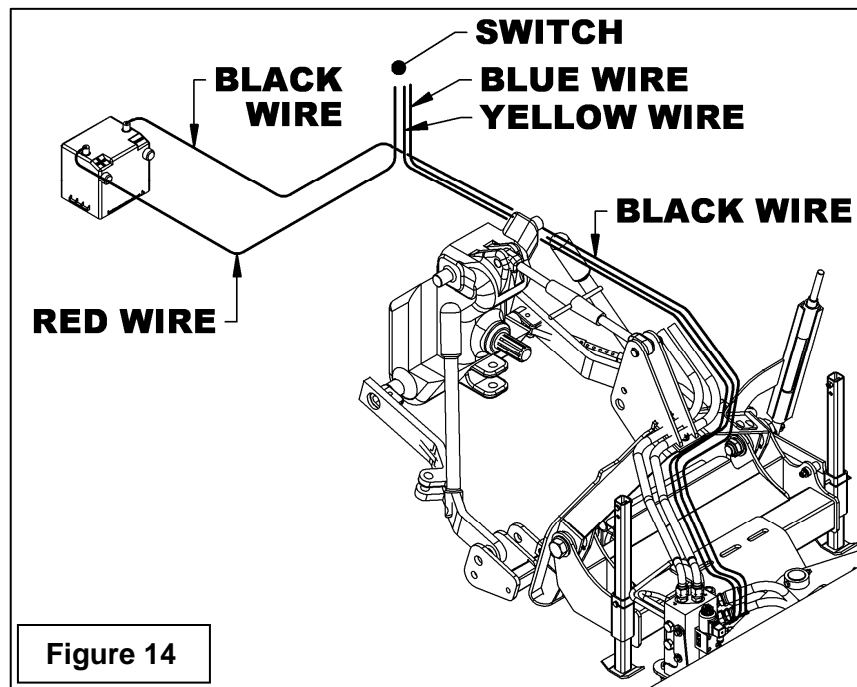

Figure 14
3. Attach the 3-cavity female connector (360" wire) (item 4) close to the vehicle's quick couplers with a nylon tie wrap Run the wires alongside the hydraulic hoses and the tractor frame before bringing them into the cab avoiding any areas liable to pinch the wires (see figure 14).
6. Connect all the wires (item 4 et 5) on the same side of the switch (item 8).
7. Connect the red battery wire (192" wire) (item 5) in the middle of the switch (item 8) on the same side as the blue and yellow wire. Run the wire through the vehicle all the way to the battery. Strip 3/8" from the wire end (item B), crimp a round terminal (item 7) then heat with a hot air gun to shrink the sheath on the wire.
8. Strip 3/8" from the end of the wire assembly's (item 4) black wire (item C), crimp a round terminal (item 12) then heat with a hot air gun to shrink the sheath on the wire. Install the round terminal (item 12) to make the ground.
9. Connect the round terminal (item 7) to the battery.
10. Insert the fuse (item 6) in the fuse holder of the battery wire (item 5).
11. Connect the 3-cavity male connector (item 2) to the 3-cavity female connector (item 3) and run it in alongside the hydraulic hoses up to the electro-hydraulic valve (item 13). Leave enough slack in the wires to allow for all the possible movements of the broom and the vehicle.
13. Strip 1/2" from the end of the wire assembly's (item 2) black wire (item A). Fold the stripped portion in two, twist and crimp a 1/4" female terminal (item 3).